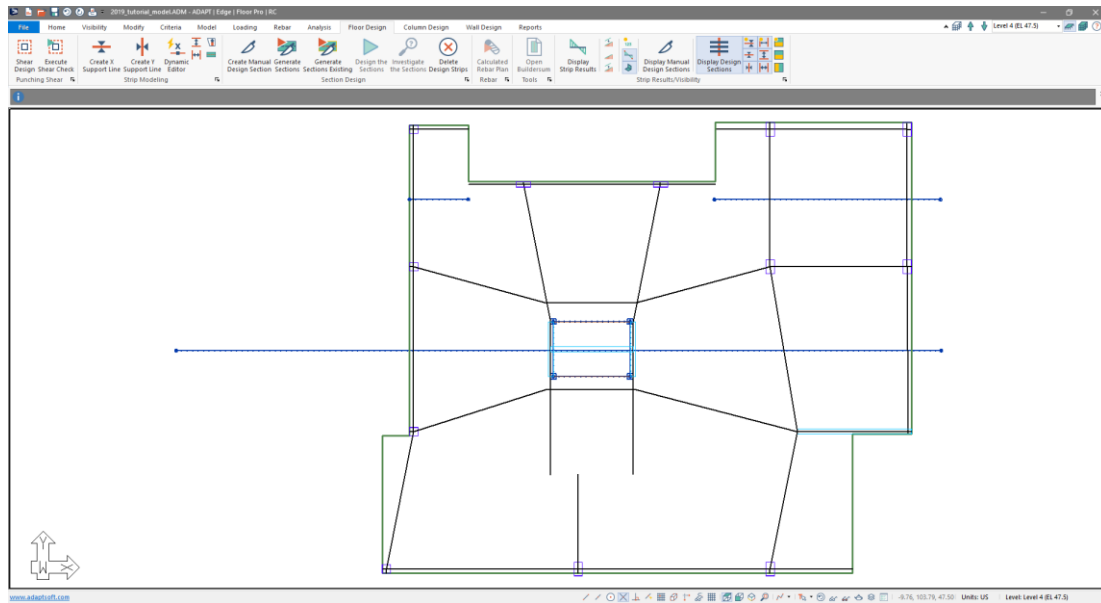

Figure 10-7
- At this point, the user's support lines should look similar to those shown in **FIGURE 10-7.**